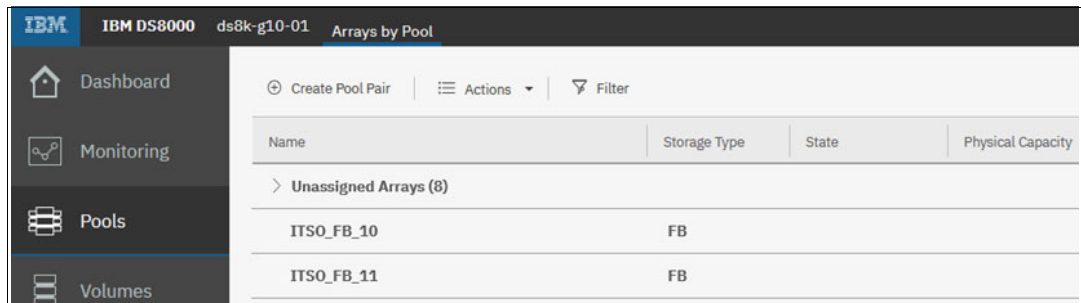

Figure 9-38 Pool pair that is created with assigned arrays
- When the pool pair parameters are correctly specified, click **Create** to proceed. Figure 9-38 shows a pool pair that is created.